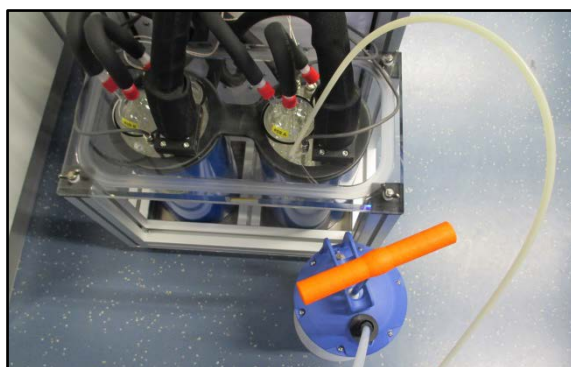

Figure 12: evacuate cooling medium
2. Insert pump tube into the inlet until it hitting ground and pump off the cooling medium (Figure 12)